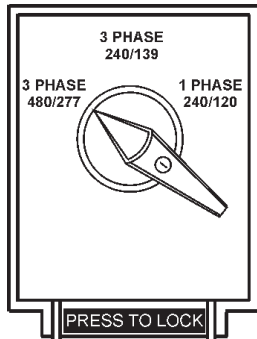

Figure 26. Voltage Selector Switch 480/277V Three-Phase Position
- Place the voltage selector switch in the 3Ø 480/277 position as shown in Figure 26.